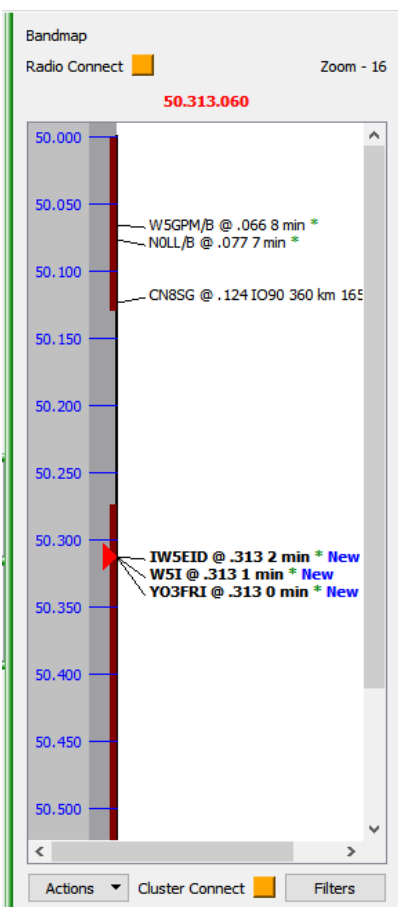

Figure 143 – Bandmap display
An example display is shown in Figure 143. **Beware:** if you don’t see anything, check your filters
To vary the zoom in order to focus on areas of interest use the scroll wheel129 while hovering over the grey frequency bar. The current zoom setting ( - 16, the least zoom, in Figure 143) is displayed in the top right of the panel. The scroll bar on the right can be used to move within the extended display thus created, or the scroll wheel while hovering over the white portion of the panel130.
- The current rig frequency is indicated by the black 'play' symbol ('dial cursor' on 144.290 in Figure 143). If this symbol turns red it indicates that it is a frequency/mode pairing that does not match the bandplan.
- If the dial cursor is not viewable, click the dial frequency at the top of the panel (144.290 at top of Figure 143) to bring that frequency back into the viewport.